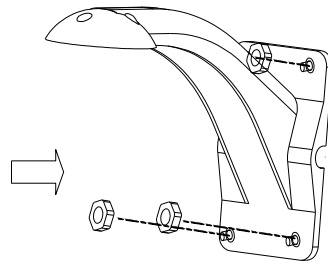

Figure 10
7. Fix the bracket on the wall (see Figure 10).